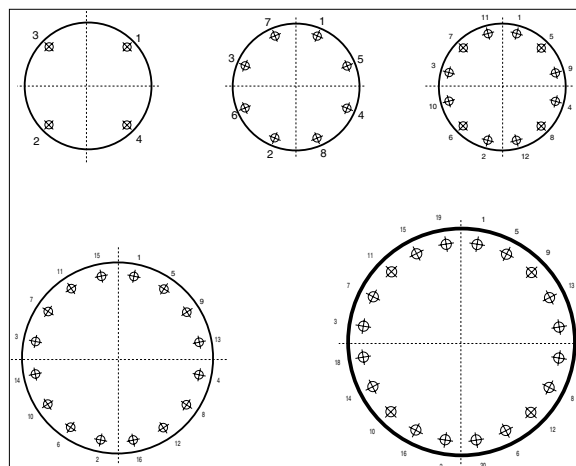

Figure 12-9 Bolt Torquing Sequences
- 6 Using a torque wrench, tighten all bolts to 35 N-m torque, following standard flange bolt tightening sequences shown in **Figure 12-9**.
- 8 Uniform pressure should be established over the flange face by tightening bolts in 7 N-m (5lb-ft) increments according to the sequence shown in **Figure 12-9**. For flanges with more than 20 bolts, similar alternating bolt tightening sequences shall be used. (As per ASTM D4024-00)